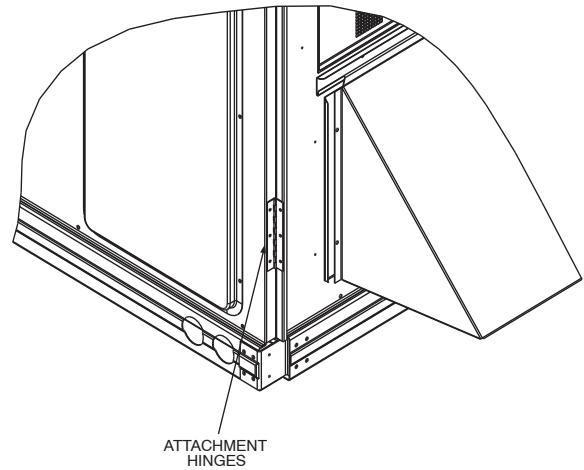
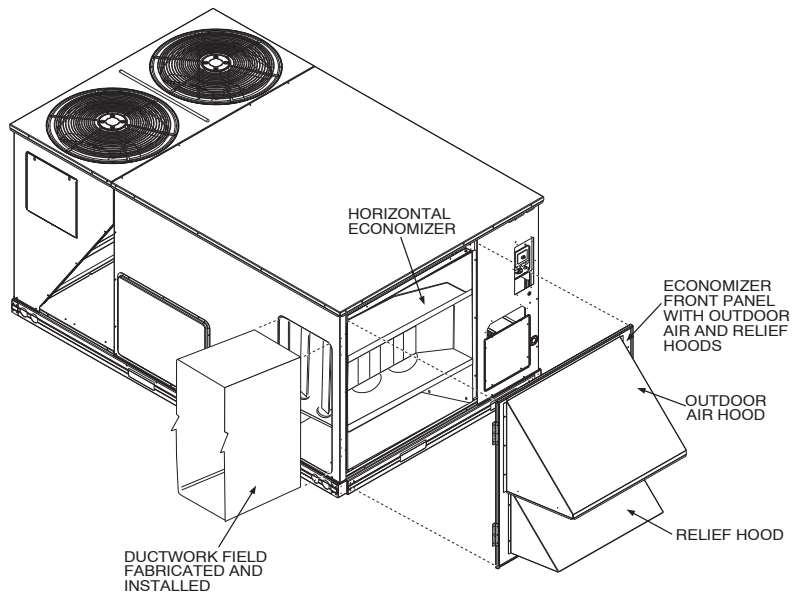

Fig. 7 – Economizer Front Panel Attachment Hinges
Fig. 16 – Installing Front Panel on Horizontal Economizer (08-14 Shown)
7. The outside air hoods and barometric relief hoods are factory installed on the EconoMiSer IV front panel/hood assembly. Lift the panel in place over the front of the EconoMiSer IV. (See Fig. 16 and 17.) Attach the panel to the unit with the screws saved from Step 2. Use self-drilling screws (provided) to secure hinges on panel to unit. (See Fig. 7.)